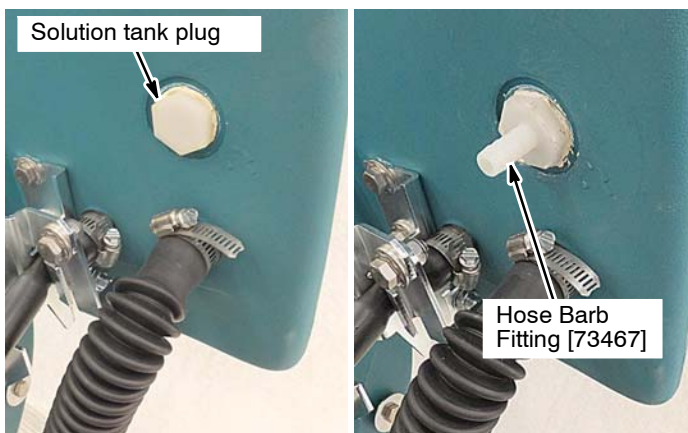

Fig. 25
11. Remove the solution tank plug and install hose barb fitting (Figure 25). Use thread sealer.